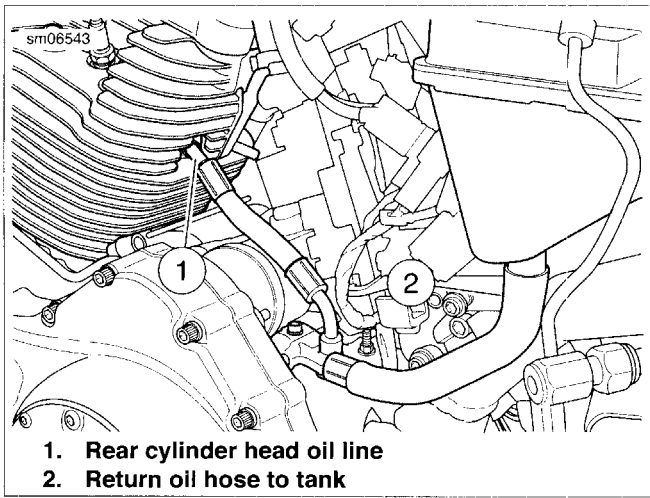

Figure 3-30. Rear Cylinder Oil Line
7. See Figure 3-30. Disconnect oil return hose (2) from oil tank.
8. Remove rear cylinder head oil line (1) from quick connect fitting using OIL LINE REMOVER, 3/8 IN. (Part No. HD-49096) while sliding return oil manifold back off from rigid oil lines and remove assembly from engine.